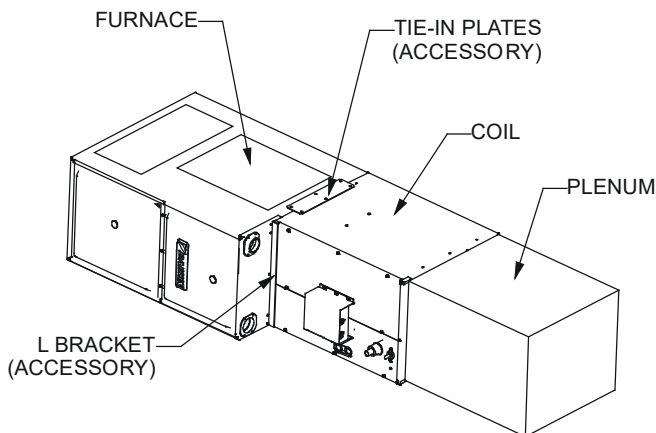

Figure 5A
4. Using the hardware and brackets provided, attach the coil to the furnace then attach the plenum to the coil (Figure 5A-5C).